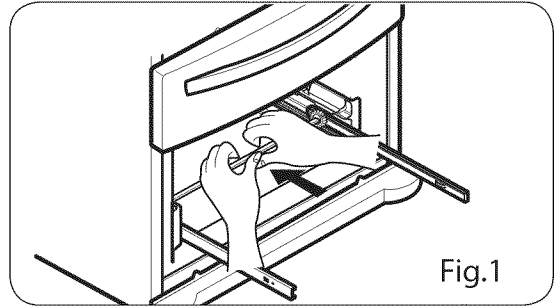

Fig.1
- Pull the drawer open to full lower extension. Remove the durabase by lifting it from rail system. (Fig. 1)
Fully extend the freezer drawer. Lifting up and 2 out to remove the Dura Base basket making sure to clear the rail system. (Fig. 1)
- To reinstall the freezer drawer, place the bar back on edge of the gears in the secure holes on the opposite rails and pull out until the drawer rails are fully extended.(Fig. 1)
- To reinstall the freezer drawer, place the bar back on edge of the gears in the secure holes on the opposite rails and pull out until the drawer rails are fully extended. (Fig. 1)
To remove the drawer, push the tabs located on the front inside surface of each rail. Next, gently lift the rear left and right sides of the drawer and pull it out (Fig. 1)